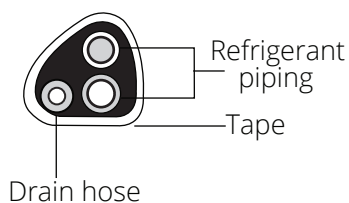

Fig. 5.7
3. Now, you will need to lightly tape the refrigerant piping and drain pipe together in a bundle, using electrical tape, making sure that the drain pipe is at the bottom. **DO NOT** tape the ends of the piping (connectors). Refer to **Fig 5.7** and the image below for the correct orientation of the piping when taping.